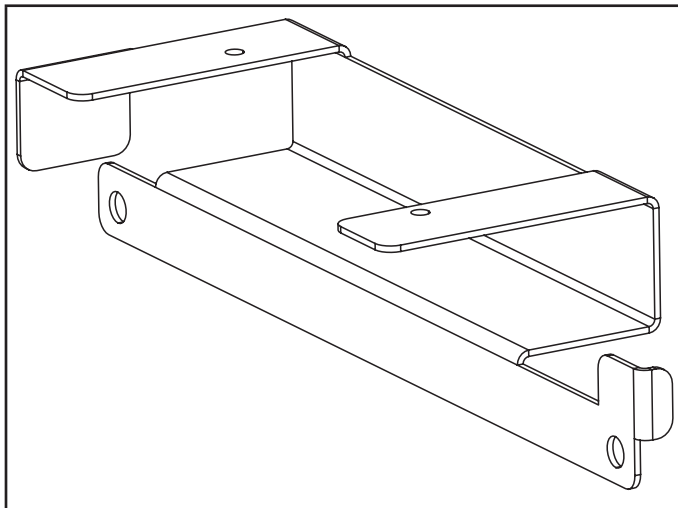

FIGURE 1
- 1 - Select bracket 626355-01 from the kit. The bracket will look like figure 1.